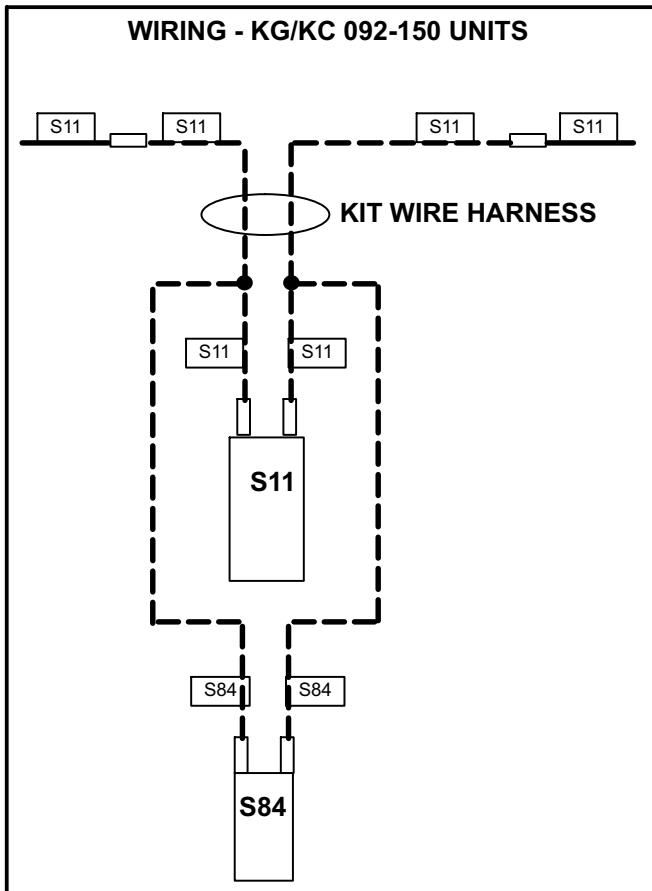

FIGURE 6
- 2- Connect harness wires as shown in figure 6.